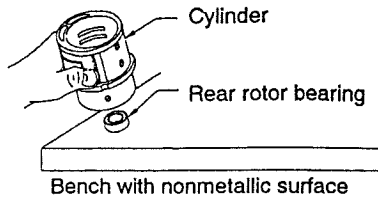

Figure 5
- To remove the Rear Rotor Bearing, hold the Cylinder with the Rear Rotor Bearing down and tap the Cylinder on a flat, non-metallic surface such as a work bench. This will loosen the Rear Rotor Bearing so that it will drop out of the Cylinder. See Figure 5.
- Working from the rear of the Housing, push out the Motor Gasket (7).